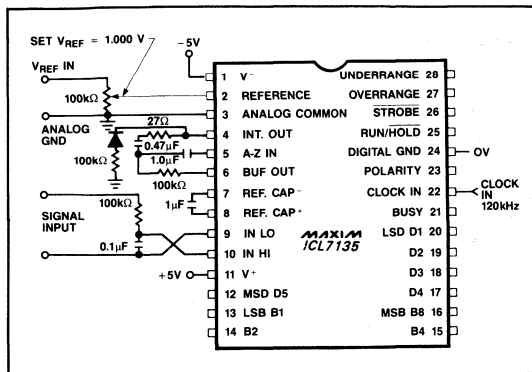

Figure 1. ICL7135 Test Circuit
- Note 1:** Tested in 4½ digit (20,000 count) circuit shown in Fig. 1, clock frequency 120kHz.
**Note 1:** Tested in 4½ digit (20,000 count) circuit shown in Fig. 1, clock frequency 120kHz.
The ICL7135 is tested for rollover using the circuit of Figure 1, with the 100k $\Omega$  resistor and diode in the circuit. The diode is noncritical, and is typically a low cost 1N4148. The resistor value is dependent on many factors including integrator swing, clock frequency, and the amount of rollover error due to "charge suckout" on the reference capacitor. 100k $\Omega$  is the optimum value for most circuits and is the value used in testing the ICL7135.